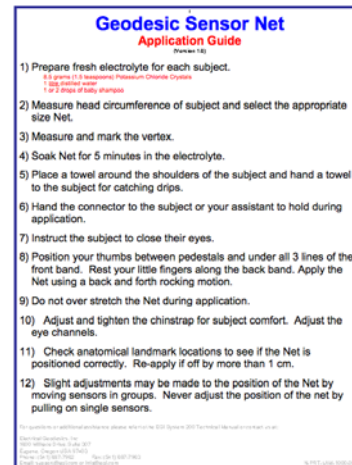

Figure D-4. Net application placard
- Make the HydroCel Saline electrolyte, following the instructions on the laminated Geodesic Sensor Net Application Guide placard (Figure D-4).